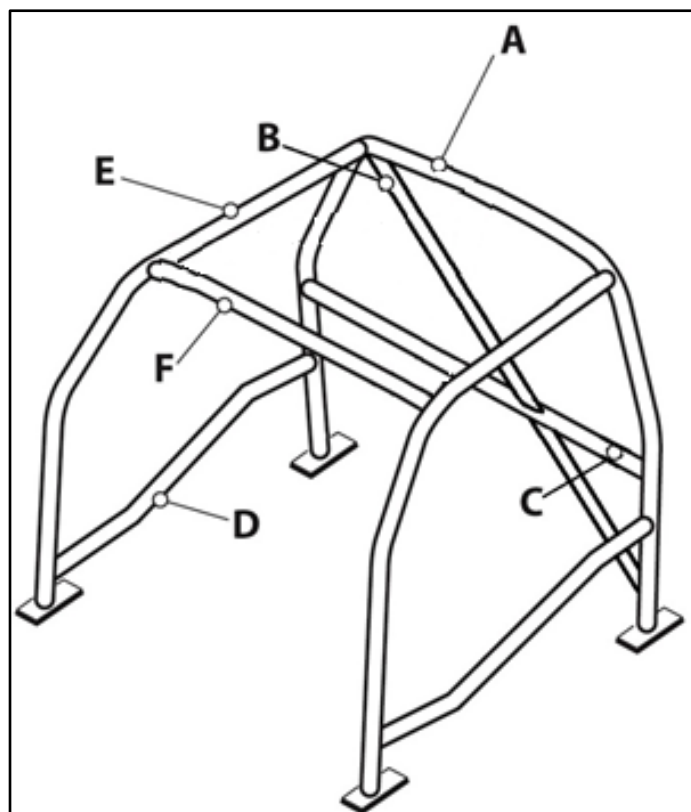

Figure 2: Four Point Rollage.
8.1 A Four Point Rollage (Figure 2) is the minimum rollage specification that is required in the following vehicles.
8.2 A Four Point Rollage must have the following components, in the positions illustrated in Figure 2, as a minimum.